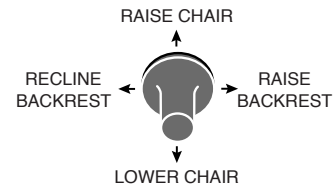

Fig. 6-1 Stick switch (Manual)
6-1. Auto Return (AR) , Preset (1.2) , and Rinsing Position (LP) Setup (Fig.6-1)
- (1) Move the chair to desired position by manual control switches.(Fig.6-1)